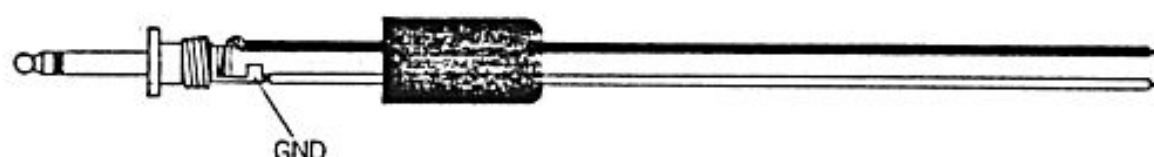

Figure 7
2. Please connect the key to the key jack as shown on Figure 7.